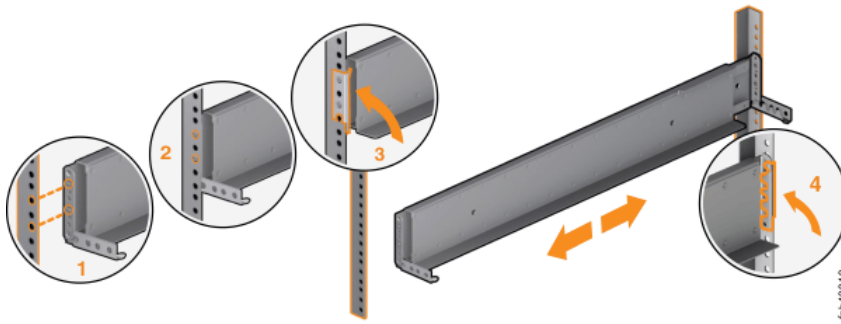

Figure 125. Closing the hinge brackets
9. Close the rear hinge bracket to secure the rail to the rack cabinet flange. (See Figure 125 on page 162.)
See Figure 125 on page 162.